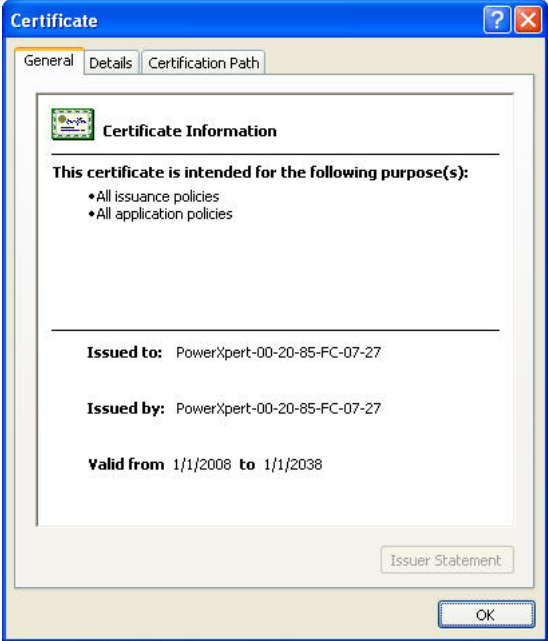

Figure 41. Certificate Window
- d. Click **View** to open the Certificate window (see Figure 41).